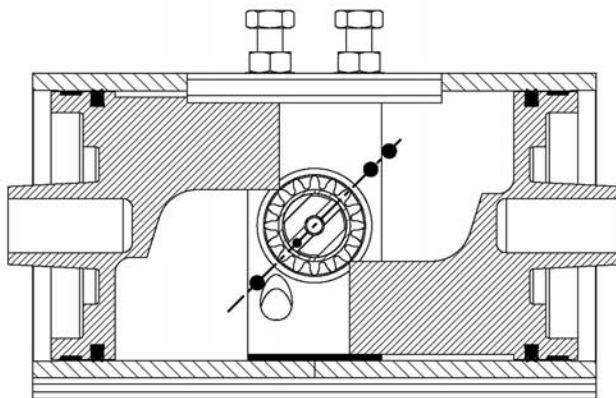

Figure 1 : Assembly for standard mode spring return fail closed (Fail CW)
- Step 13** Rotate the pinion so that the dot on the pinion is positioned close to the single dot on the top pad of the actuator body. Accurate pinion alignment can now take place by lining the center of the slot on the top of the pinion with the single dot on the body. (See Figure 1, page 8)
Figures 1 and 2: